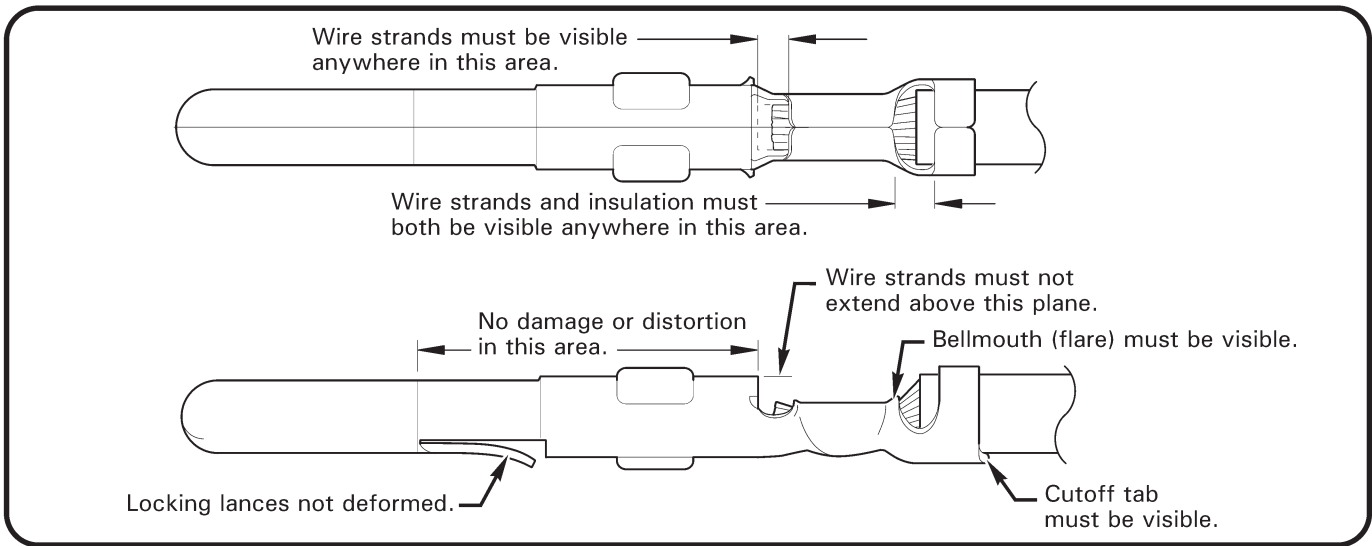

FIGURE 1
3. Strip magneto wires and crimp a B263-3 pin on each; inspect crimps per Figure 1 and verify security.